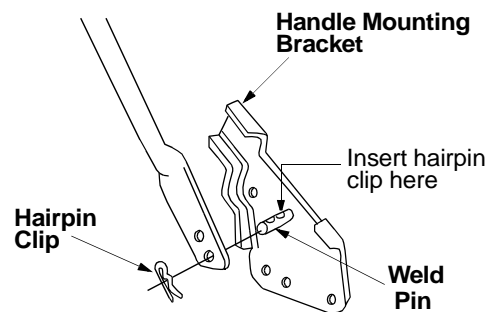
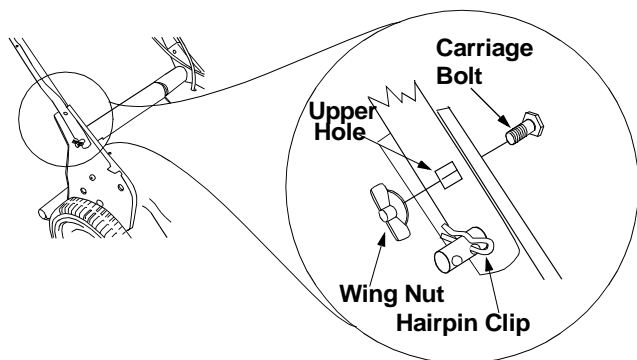

Figure 3
Figure 6
- Remove the hairpin clips from the outer hole in the weld pins on the handle mounting brackets. Using a pair of pliers, squeeze one leg of the lower handle against the handle mounting bracket. Insert the hairpin clip into the inner hole on the weld pin. Repeat on the other side. See Figure 3.
- After you have moved the hairpin clips as shown in Figure 3, place one carriage bolt (found in the hardware pack included with your unit) in the upper hole of the right handle mounting bracket from the inside outward. See Figure 6. Secure with one plastic wing nut. Repeat process on the left side.